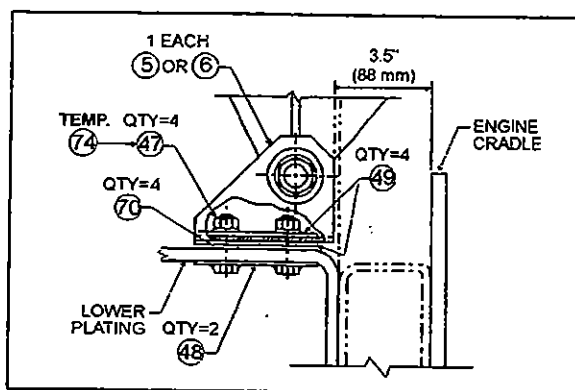

Figure 17: Angle Support
1. Install both attachment assembly plates (48, Fig. 17) through lower plating. Secure with four spring nuts (70, Fig. 17). Install one spacer (49, Fig. 17) on spring nuts at both anchoring locations.
- Center seat assembly in the fan shroud using the horizontal displacement of the fan drive installation. Center with the slots in the floor at anchoring angle support (on some vehicles only). The vertical displacement of the fan clutch is made possible by slots at the base of the fan clutch (on some vehicles only) or by shimming with additional spacers at anchoring locations. Temporarily secure assembly with two temp. nuts (74, Fig. 17), 7/16-20, part number 50-0709 at both anchoring locations.
- Using a universal protractor, check 3 "V" pulley's vertical angle with that of engine pulley's. If angles do not correspond, raise seat assembly by shimming with additional spacers (49, Fig. 17).
- Recheck alignment (steps 3, 4 and 5). Replace temporary anchoring nuts (74, Fig. 17) with four nuts (47, Fig. 17), part number 50-0714. Tighten with wrench.